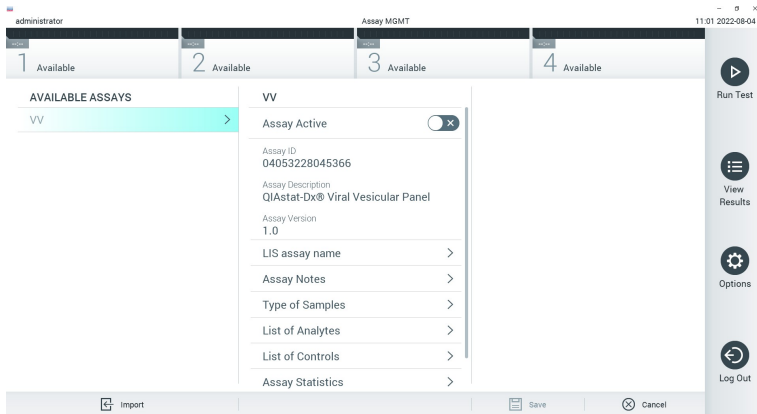

Figure 22. Assay Management screen.
2. Press the **Options** button and then select Assay Management. The Assay Management screen appears in the Content area of the display (Figure 22).